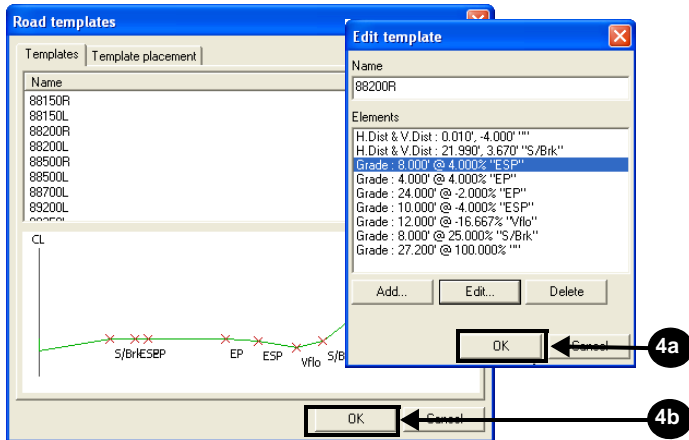

Figure 6-40. Update Template
- Press **OK** to update the template. Review the elements as needed and press **OK** to update the template on the Roads template list (Figure 6-40).